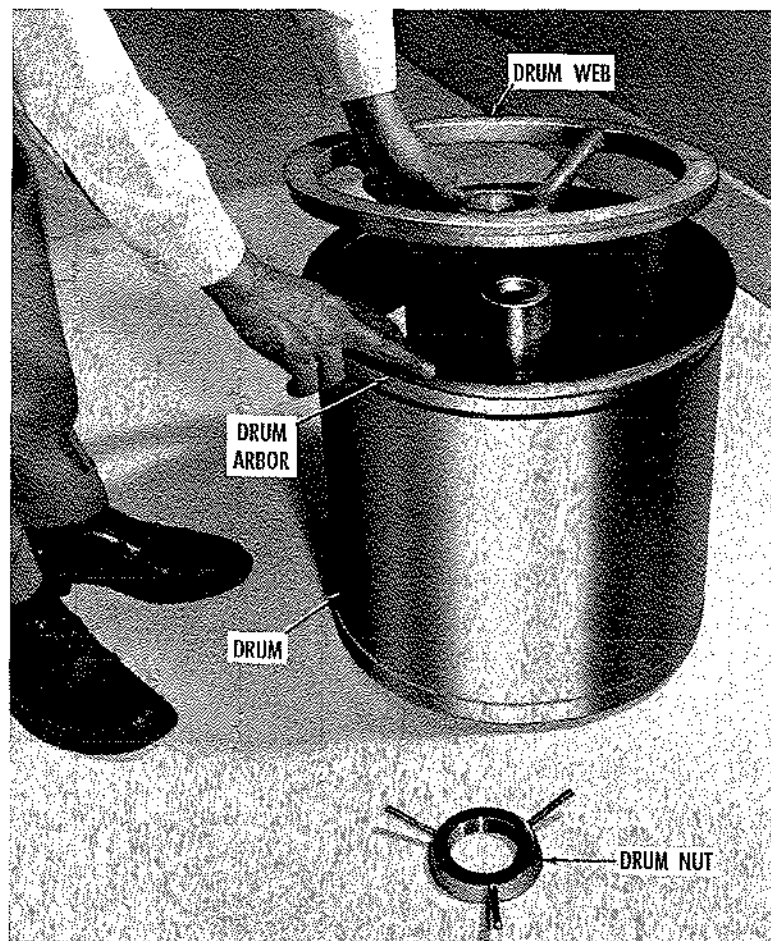

Figure 32. Drum Replacement
1. Remove the drum nut and lift out the drum web (see figure 32).